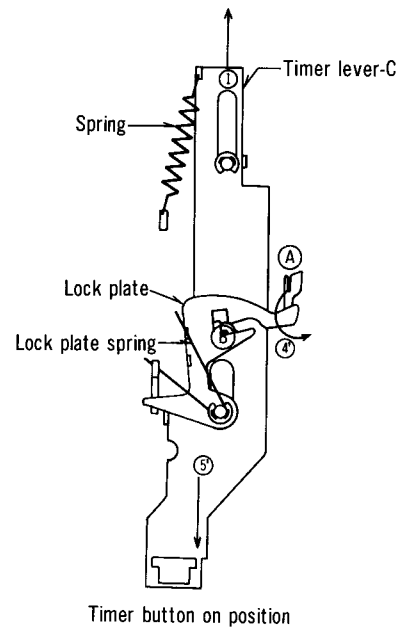

Fig. 2
1. The timer lever-C is pushed in the direction of arrow () as shown in fig. 2.
4. The lock plate is released at the same time that part () of the Auto-Stop driving lever assembly moves toward (). See fig. 2.